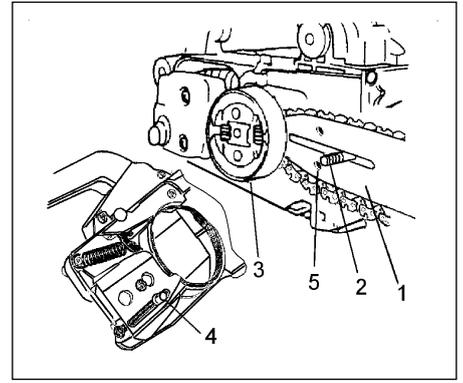

Fig.1-2
3. Install, the chain bar (1) onto the bolts (2), then push it toward the sprocket (3) as far as it will go. Make sure that the boss of chain tension adjust bolt (4) fits into the hole of the bar (5). (Fig.1-2)